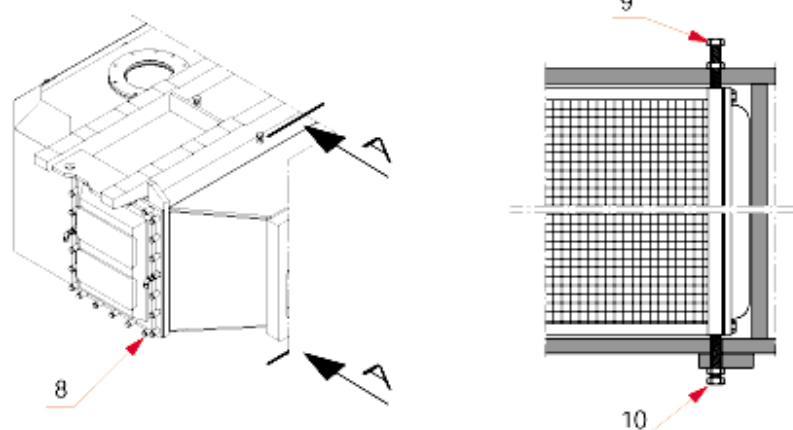

figure: 15-5 Supporting of air cooler
- 1 **Remove the support screws (9) and (10)**, see [Fig 15-5] .
- 2 **Remove the cooling water pipes.** Loosen the cooler flange screws and, on an in-line engine, withdraw the cooler until the thread or the hole (7) for the lifting tool is visible. On the V-engine, withdraw the cooler about 300 mm and fit the tool 846025 32.84G02. Screw on the tool by using four of the air cooler fastening screws. Then, withdraw the cooler completely towards the tool stop. If necessary, use screws in the two threaded extractor holes in the flange to loosen the cooler.